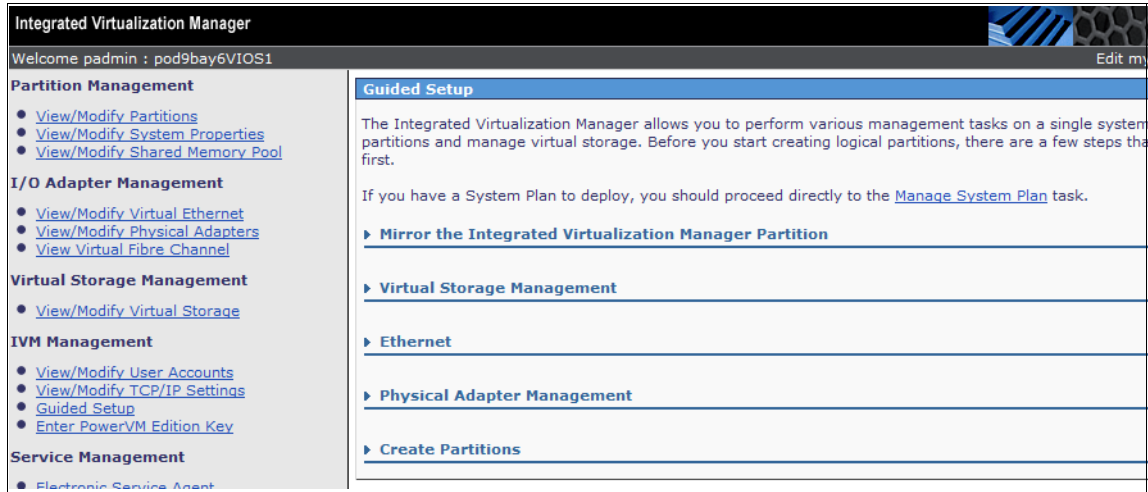

Figure 8-55 IVM Guided Setup view
- The IVM GUI should now be accessible from a workstation browser as described in 7.10.2, “Accessing IVM” on page 299. After the login information is completed for the first time, the Guided Setup view is displayed, as shown in Figure 8-55 on page 406. (The Guided Setup is not covered in this document.)